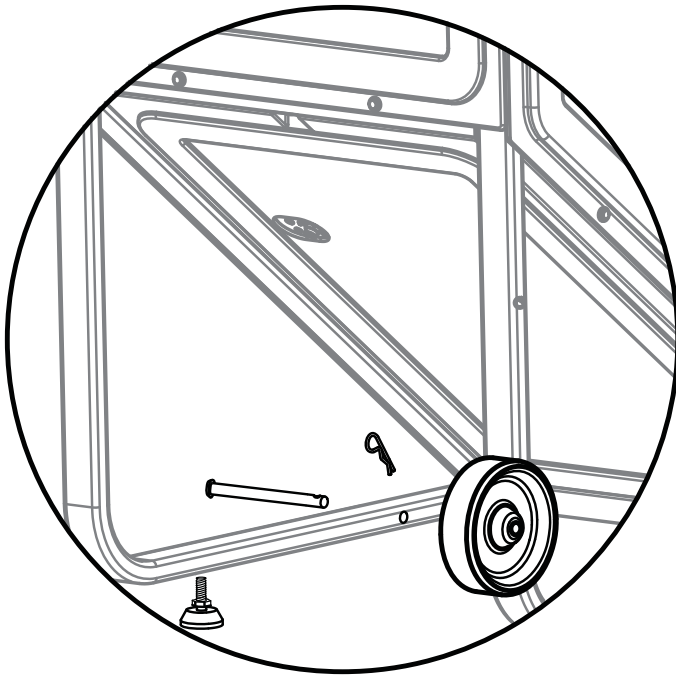
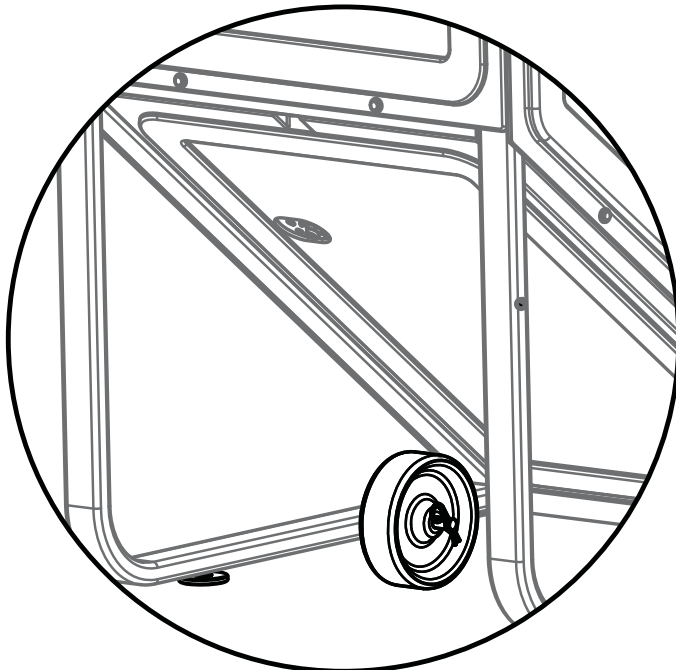

Figure 3A
Figure 3B
**3-1** With the assistance of another person, tilt the StepMill® machine to one side and insert the Clevis Pin from the outside of the frame (Figure 3A), slide Wheel on to the Clevis Pin and secure with a Cotter Pin (Figure 3B).
**3-2** While tilted to one side, insert a Leveler in the front and back of the StepMill® machine (Figure 3A) for adjustment when the Wheels are removed.